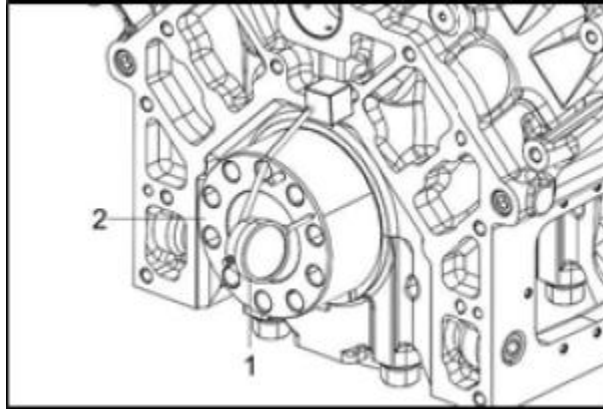
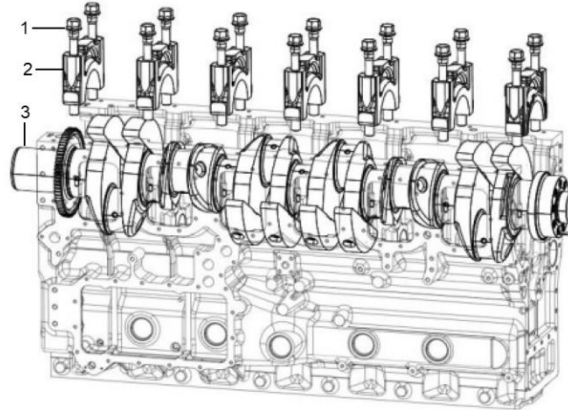

Figure 91.
Figure 93.
METHOD A: Install a dial gauge (Figure 93, Item 1) on the cylinder block. Move the crankshaft (Figure 91, Item 2) front to rear to measure the end play. Record the measurement.
1. Loosen and remove the main bearing cap bolts (Figure 93, Item 1).
2. Remove the main bearing caps (Figure 93, Item 2). Be sure to note the markings on the main bearing caps, or mark them yourself, so they can be reinstalled in the same order as they were removed. **DO NOT REMOVE THE BEARING INSERTS AT THIS TIME.**
4. With proper hoisting assistance carefully remove the crankshaft (Figure 93, Item 3) from the engine.